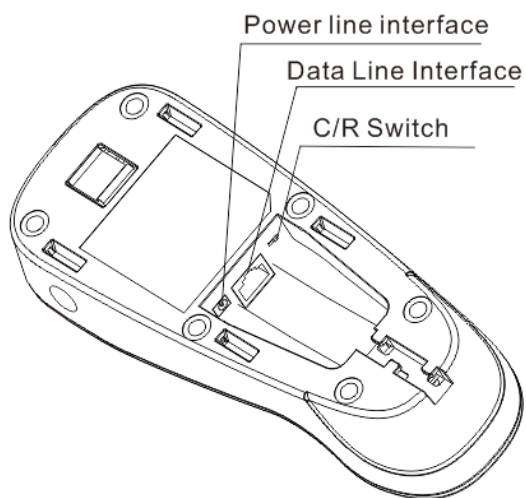

Figure 1-3
1. Connect the device interface (RJ45 interface) of the RS-232 data line with the data line interface (Figure 1-3) of the CD200 base.
3. Connect the power cord interface of the CD200 base (see Figure 1-3) with the power adapter.